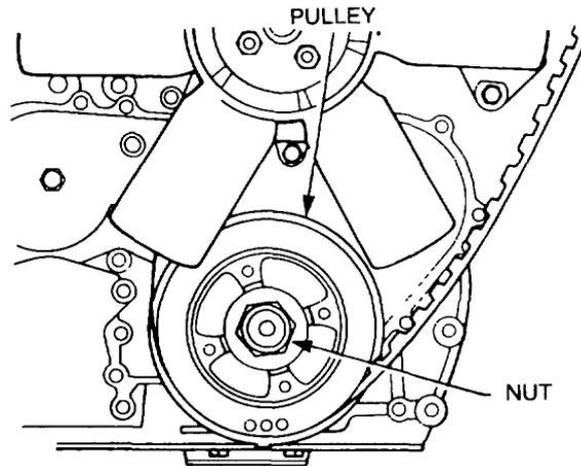

Figure 46 Removal of the Crankshaft Pulley
- d. Ensure that the parking brake is applied, low gear is selected and all wheels are chocked. Remove the crankshaft front nut and washer (Figure 46) and remove the pulley.